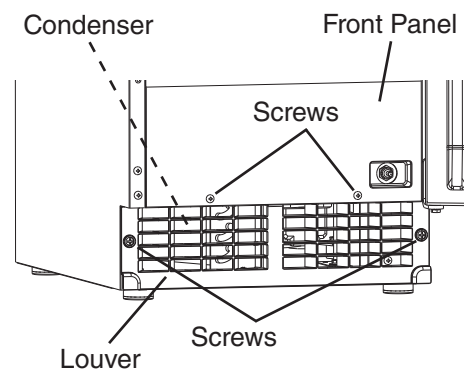

Fig. 33
- 2) Remove the 2 screws securing the front panel, then remove the panel. See Fig. 33.